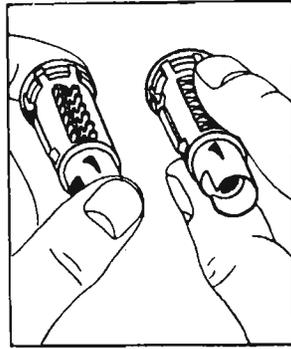

Fig. 1-15—Checking with code.
2. After all tumblers are in place, check for correctness with the code. Then press tumblers down with one finger (fig. 1-15).